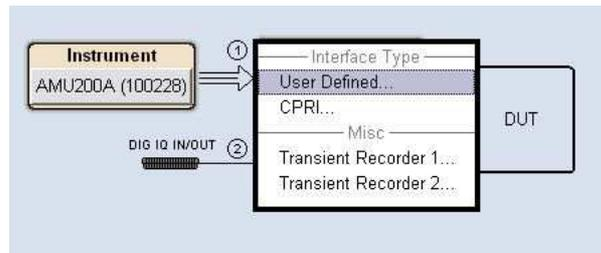

Figure 10: Basic operation mode: User Defined
- Click on *config* in the module block of the R&S EX-IQ-Box that you want to configure. Select "User Defined", see Figure 10: